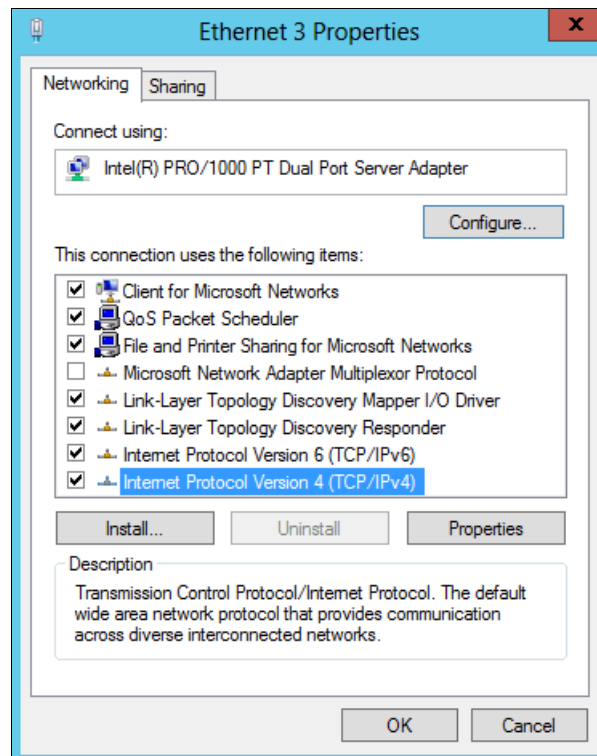

Figure 5-15 Ethernet properties
3. To configure the IP address, click **Properties** (Figure 5-15).